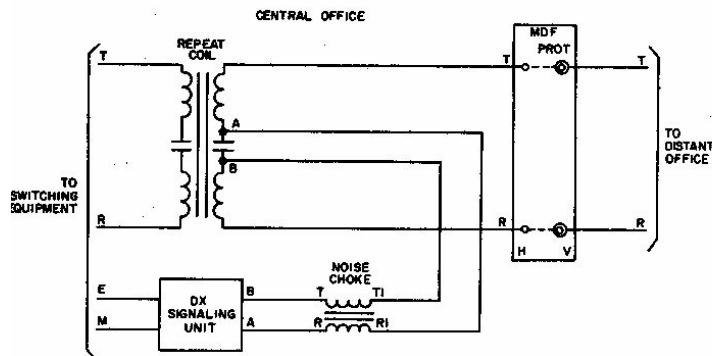

Figure 15: DX Application
- 4.08 DX Signaling Circuits: If the telephone circuit is equipped with a DX (Duplex) signaling unit, the Noise Choke is inserted in the signaling leads between the repeat coil and the DX unit as shown in Figure 15.